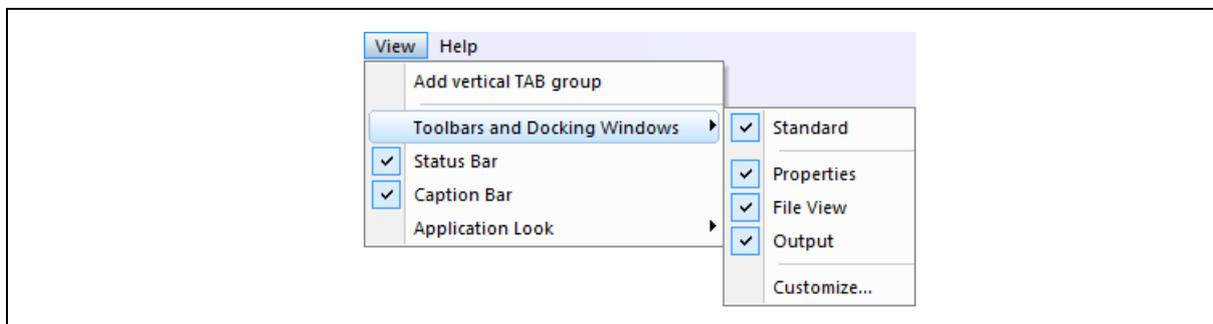

Figure 7 Child View Selection
- Toolbars and Docking Windows: It shows or hides various child views. If the users select child views as shown in Figure 7, the selected child views open.